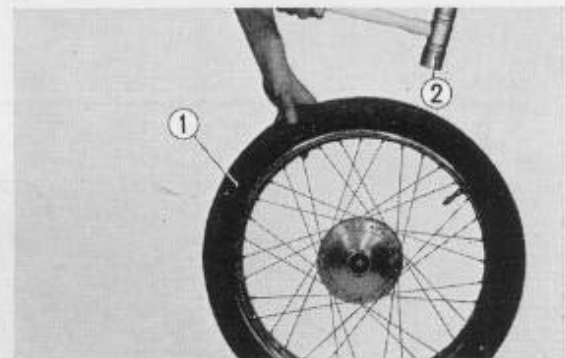

Fig. 4.91 Seating tube
- a. After the tire is assembled on the rim, inflate the tire to $\frac{1}{3}$ the normal pressure $1.6 \sim 1.8 \text{ kg/cm}^2$ ($22.8 \sim 25.6 \text{ lbs/in}^2$) and then tap the tire lightly over the entire circumference to relieve any pinching of the tube. (Fig. 4.91)